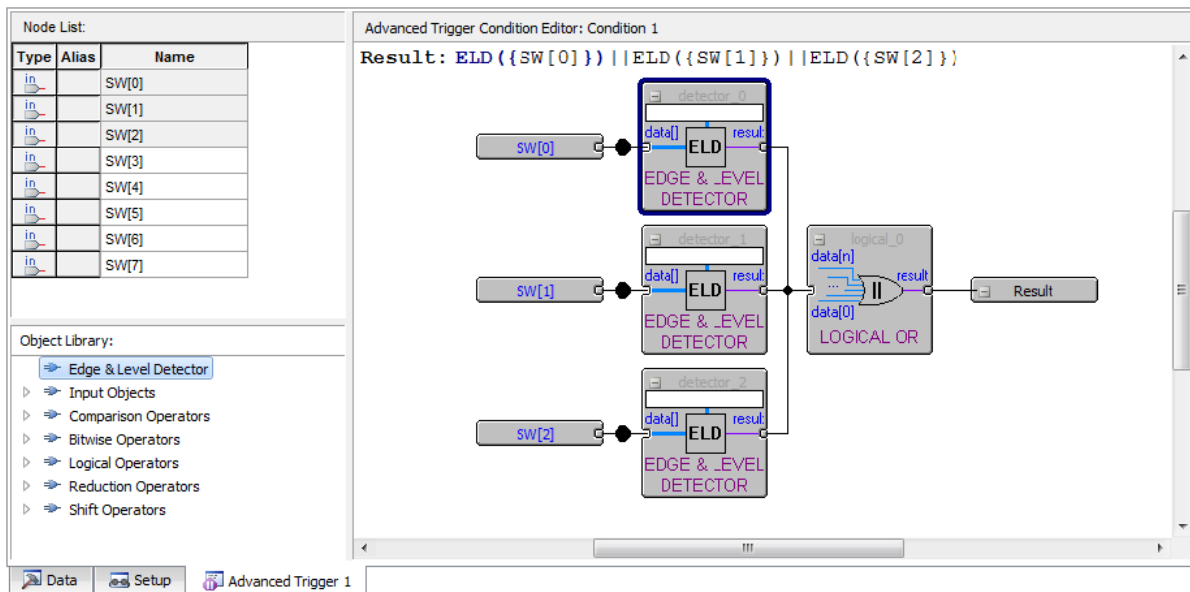

Figure 21. Arrange the elements to create a circuit that looks like this.
6. In the object library click Edge and Level Detector and drag this into the editing window. Do this three times and then arrange the circuit as in Figure 21. The three inputs should each be connected to the input of an edge and level detector and the output of each of these detectors should be connected to the OR gate. The output of the OR gate should be connected to the output pin already in the editing window.